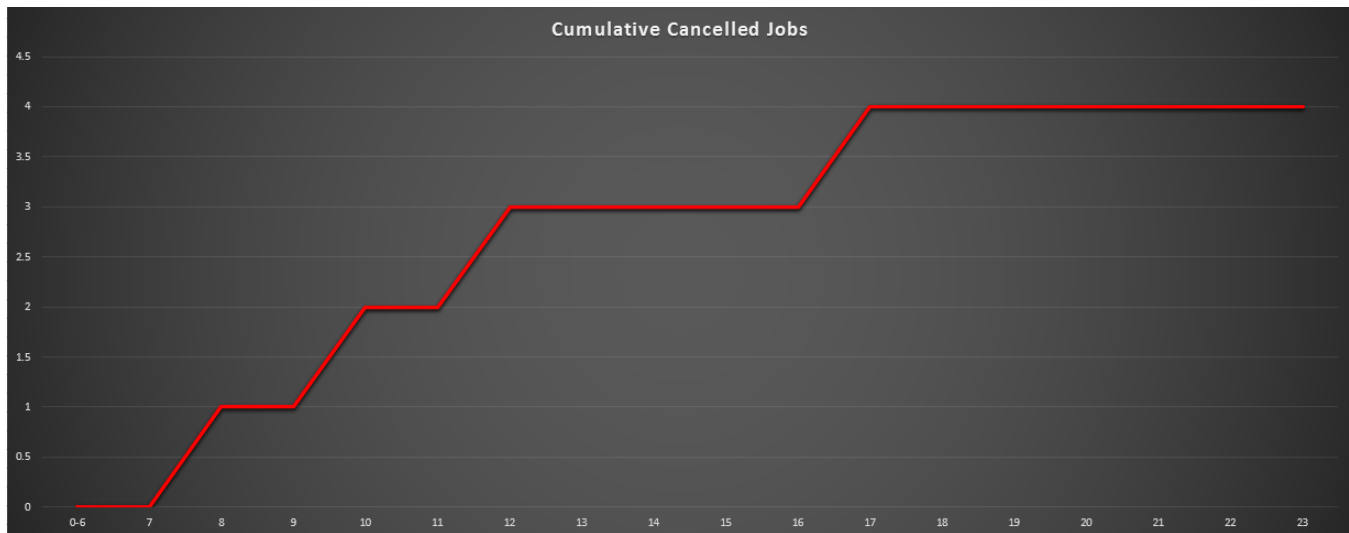

Figure 6.7: **Cumulative Cancelled Jobs:** Represents the total number of cancelled jobs at the end of each time interval
- Figure 6.7: Cumulative Cancelled Jobs (Page 10)